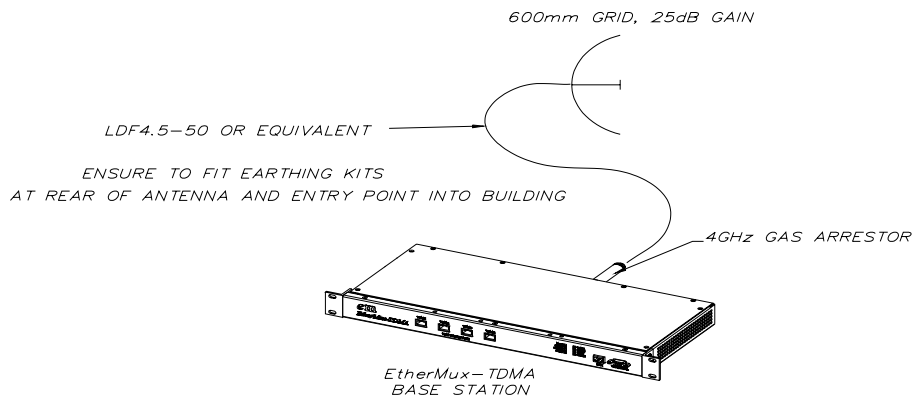

Figure 1.
1. Install the Basestation terminal, antenna(s) and RF cabling. Figure 1 illustrates a typical installation.
1. Install the Subscriber terminal, antenna(s) and RF cabling. Figure 1 illustrates a typical installation.